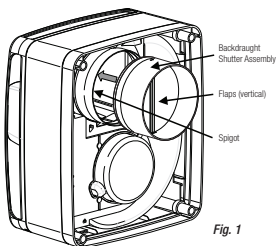
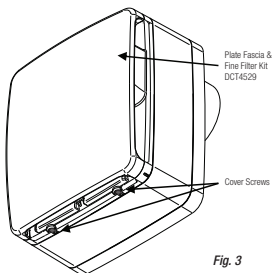
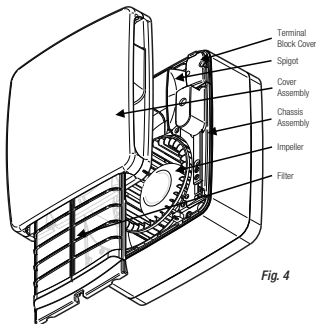

Fig. 1
Fig. 3
Fig. 4
A backdraught shutter assembly is supplied. It is packed inside the product during transport. It is designed to block the duct when the fan is off in order to prevent cold draughts from outside entering the building. To use it, push it on to the end of the exhaust spigot (Fig. 1) with the hinges on the flaps vertical. It is not required when the fan is set up to run continuously.
The Plate Fascia and Fine Filter Kit (DCT4529), shown in Fig. 3 and Fig.4, is an optional extra kit that can be purchased separately.
2. Cut a 115mm diameter hole through the wall, ensuring that there is sufficient space for the product to be installed and that the filter (Fig. 4) can be removed for maintenance.
6. Remove the small terminal block cover in the top right corner (Fig. 4).
12. Ensure the impeller (Fig. 4) rotates freely.
2. Cut a 105mm diameter hole through the wall, then suitable screw holes in the panel, ensuring that there is sufficient space for the product to be installed and that the filter (Fig. 4) can be removed for maintenance. Either the cardboard fitment or the fan chassis can be used as a template. The spigot can be removed temporarily to make it easier. (Fig 1 & 4).
4. Remove the small terminal block cover in the top right corner (Fig. 4).
9. Ensure the impeller (Fig. 4) rotates freely.